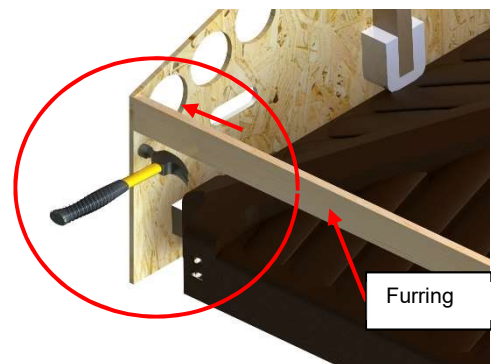

Figure 43
- 18) Gently hammer off the last wood furring strips on the front of the crate. **Consider hammering the side panel in an outward direction to prevent damaging the COVANA cover.** (Figure 43)
- ♦ Be careful not to damage the cover during this process. (Figure 43)